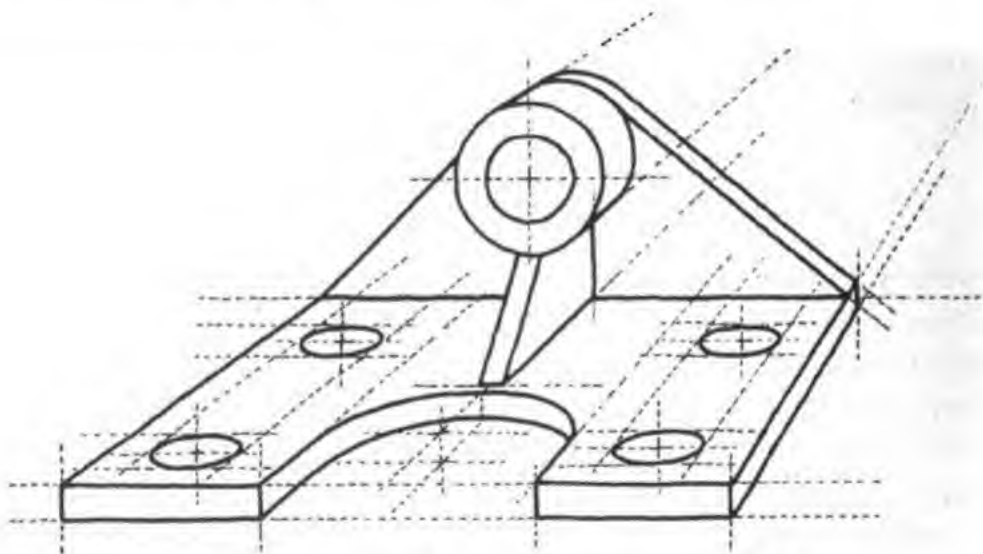

Figure 6-13.—A one-point perspective sketch.
4. Start by lightly sketching in the principal lines, extending each one towards the vanishing point. In figure 6-13, which is a perspective sketch, there is only one vanishing point. It is sometimes called a one-point perspective. All faces of the object which are in planes parallel to the front plane are shown in approximately their true shape. Notice how all receding lines tend to meet (and would if they were extended) at a single vanishing point.